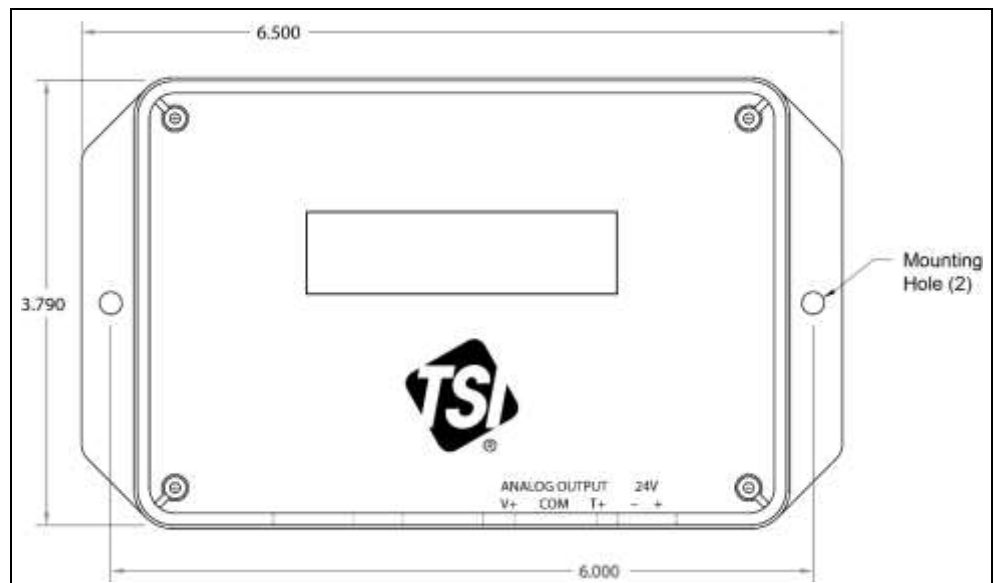

Figure 5. Transmitter Dimensions
Mount the transmitter upright in a field accessible location with sufficient service clearance to permit cover removal. The enclosure (Figure 5) is designed to accept signal and power wiring at the bottom-right of the enclosure. Ensure that the planned location of the transmitter will allow each sensor probe cable to reach the receptacle at the bottom-left of the transmitter enclosure.
2. Refer to Figure 5 and mark the two mounting holes located on each of the side flanges of the transmitter.